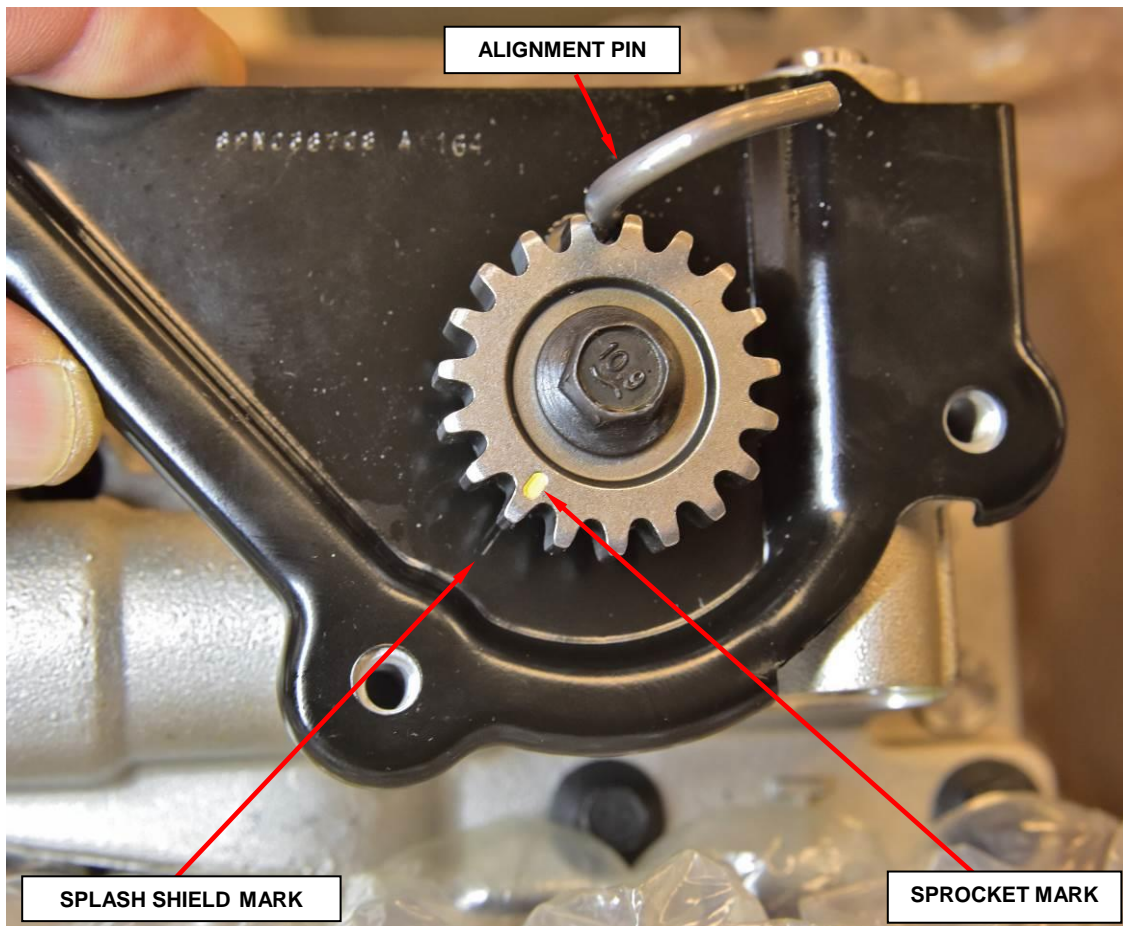

Figure 11 – Alignment Pin
1. Remove the **NEW** balance shaft module from the shipping box and verify the alignment pin is aligned with the drive sprocket mark and splash shield cover (Figure 11).